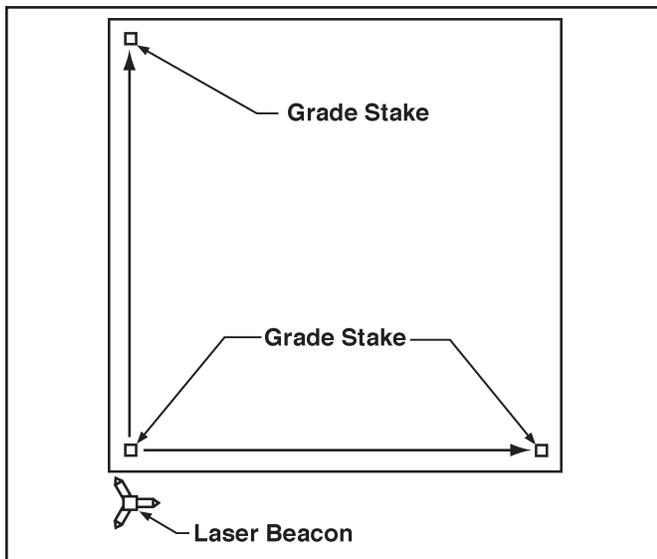

Figure 26. Method Two: Align Rotating Laser with Grade Stakes
2. Place the Rotating Laser a few feet (meters) behind the first grade stake and in line with one of the far grade stakes (It is not critical to align the Rotating Laser exactly) (Refer to Figure 26).